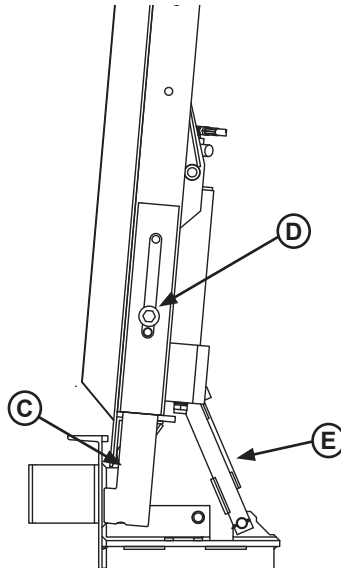

Figure 28
When maintenance is to be performed on the dock leveler, place the maintenance props (C) in their service/down position with hardware (D) tightened by wrench. Ensure the storage prop (E) is locked out with the prop pin and clip (F). See Figures 28 and 29. The lip may fold down if the platform has rested on the maintenance props.